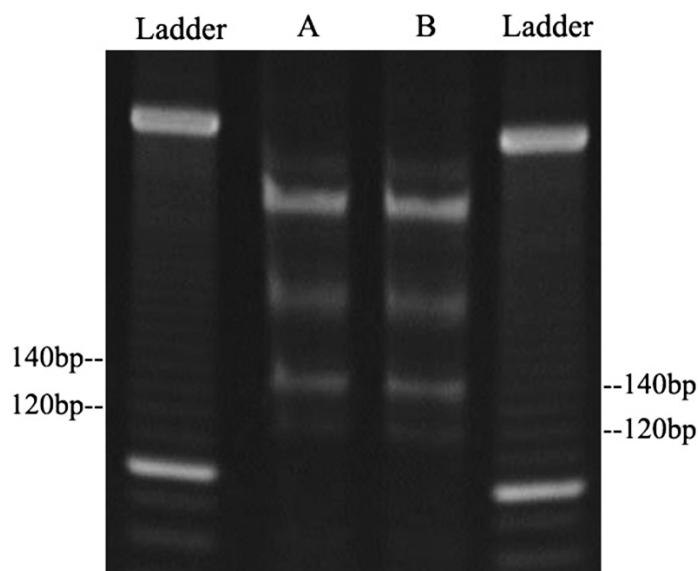

Figure 3 Duplicate Small RNA Library Samples (A and B) on 6% TBE Gel
*: Limiting the cycle number prevents PCR bias introducing into the RNA profile of the sample and minimizes duplicate sequencing reads. PCR reaction cycle is generally limited which depends on starting material's resource and quality. You may test several PCRs with different cycles to see the minimum number of cycles needed to get a visible product on the gel (Figure 3). The fewer number of PCR cycles used to amplify your libraries, the less biased your libraries will be for the products that are more efficiently amplified.
You may see two close bands on your gel – the higher band (~140 bp) corresponds to the majority of the microRNA library, while the lower band (~120 bp) corresponds to a linker-linker ligation product (Figure 3 and 4). To get better separation of your target library from the linkers, MCLAB recommends running your library on a long gel at low voltage (and prefer in a cold room).